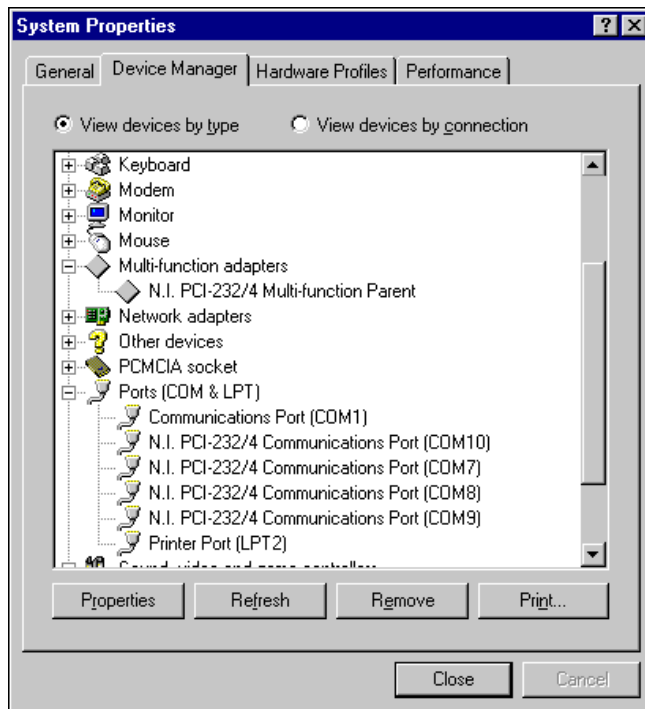

Figure C-2. Selecting an Interface to Uninstall
4. From the **Multi-function adapters** list, select the National Instruments interface that you want to uninstall, as shown in Figure C-2.